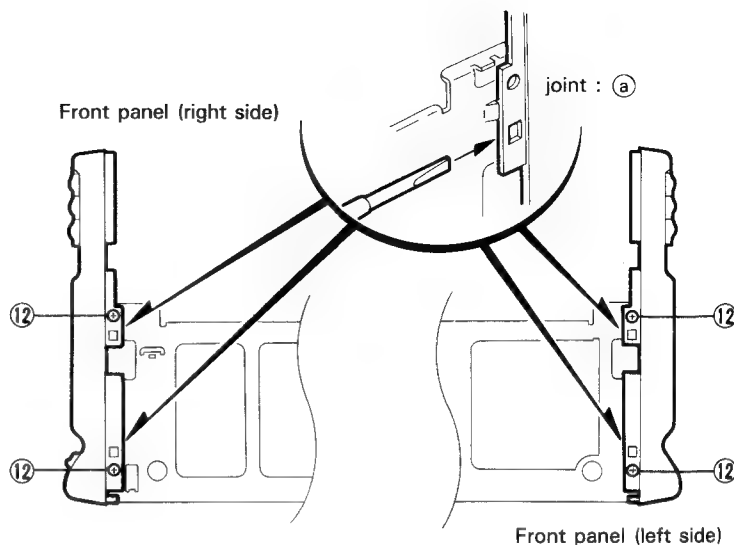

Fig. 7-13
8. Remove the three screws ⑪ retaining the CD changer control P.C. board.
■ Method of removing the front panel assembly (Refer to Figs. 7-13 ~ 7-14)
6. Remove the four conical screws (12) retaining both sides of the front panel assembly (Refer to Fig. 7-13).